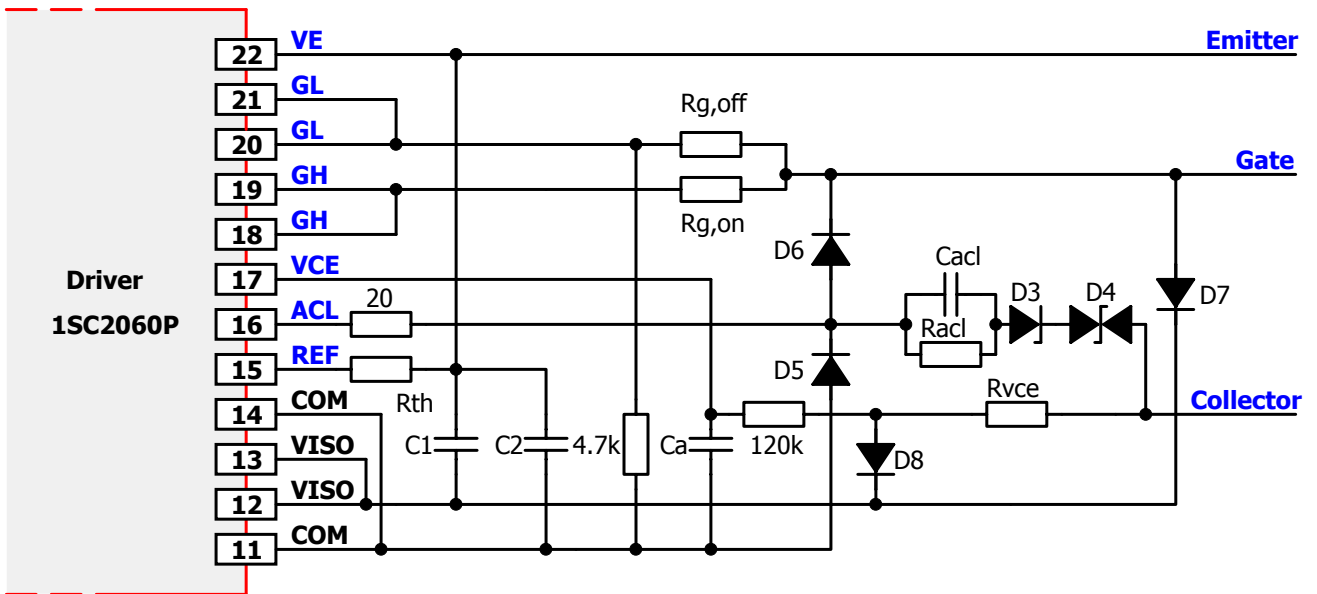

Fig. 5 Recommended user interface of 1SC2060P for IGBT mode with advanced active clamping (secondary side)
Power semiconductors with a gate charge of up to $3\mu\text{C}$ can be driven without additional capacitors on the secondary side. For IGBTs or MOSFETs with a higher gate charge, a minimum value of $3\mu\text{F}$ external blocking capacitance is recommended for every $1\mu\text{C}$ gate charge beyond $3\mu\text{C}$. The blocking capacitors must be placed between VISO and VE (C_1 in Figs. 5 and 6) as well as between VE and COM (C_2 in Fig. 5). They must be connected as close as possible to the driver's terminal pins with minimum inductance. It is recommended to use the same capacitance value for both C_1 and C_2 (IGBT mode). Ceramic capacitors with a dielectric strength $>20\text{V}$ are recommended. Insufficient external blocking can lead to reduced driver efficiency and thus to thermal overload.
The collector sense must be connected to the IGBT collector or MOSFET drain with the circuit shown in Figs. 5 and 6 in order to detect an IGBT or MOSFET overcurrent or short-circuit.
Basic active clamping topologies implement a single feedback path from the IGBT's collector through transient voltage suppressor devices (TVS) to the IGBT gate. The 1SC2060P supports CONCEPT's advanced active clamping, where the feedback is also provided to the driver's secondary side at pin ACL: as soon as the voltage on the right side of the 20 Ω resistor (see Fig. 5) exceeds about 1.3V, the turn-off MOSFET is progressively switched off in order to improve the effectiveness of the active clamping and to reduce the losses in the TVS. The turn-off MOSFET is completely off when the voltage on the right side of the 20 Ω resistors (see Fig. 5) approaches 20V (measured to COM).
It is recommended to use the circuit shown in Fig. 5. The following parameters must be adapted to the application:
- The first mode is the default IGBT setup with both a positive (regulated) turn-on voltage of 15V (typical) and a second (non-regulated) turn-off voltage (see Fig. 5).
The 1SC2060P driver is equipped with a V_{ce} monitoring circuit. The recommended circuit is illustrated in Figs. 5 and 6. A resistor (R_{th} in Figs. 5 and 6) is used as the reference element for defining the turn-off threshold. The value of the current through R_{th} is 150μA (typical). It is recommended to choose threshold levels of about 10V (R_{th} values around 68kΩ). In this case the driver will safely protect the IGBT/MOSFET against short-circuit, but not necessarily against overcurrent. Overcurrent protection has a lower timing priority and is recommended to be realized within the host controller.